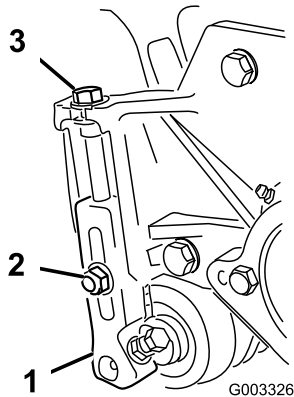

Figure 14
1. Loosen locknuts securing height-of-cut arms to cutting unit side plates (Figure 14).